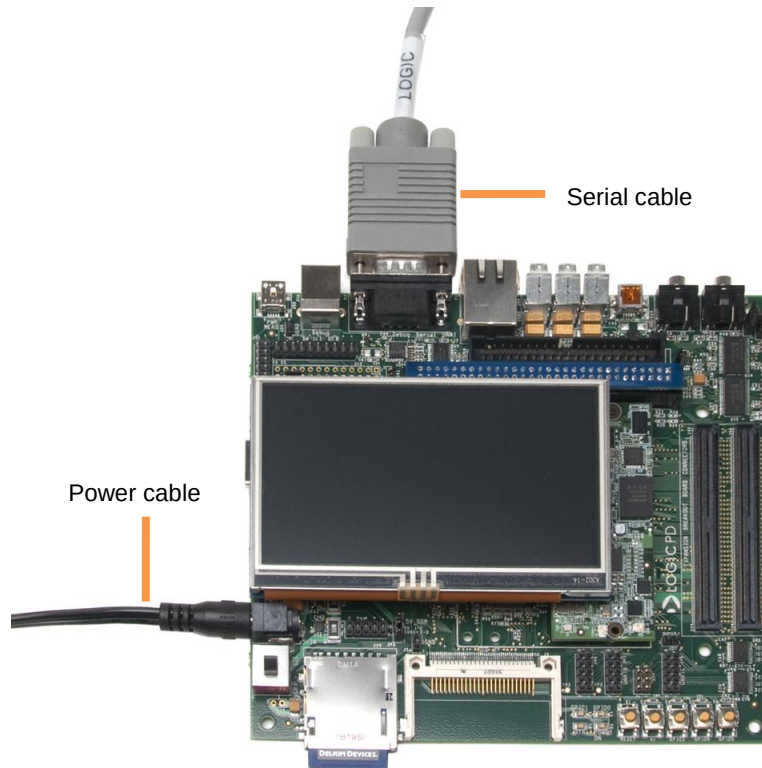

Figure 2.1: Connect Serial Cable
1. Connect the null-modem serial cable to the serial port connector on the baseboard and to an empty COM port on your PC. See Figure 2.1.
3. Plug the power adapter into an electrical outlet and the 5V line output connector into the power-in connector on the baseboard. See Figure 2.1.